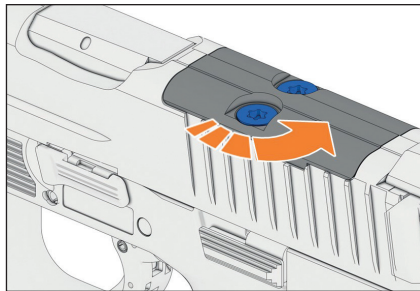

Figure 16 – Loosen screws
1. Loosen screws with a torque wrench TORX15 and remove them (Fig. 16).